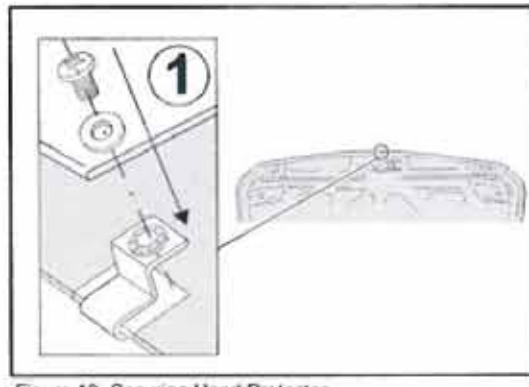

Figure 10. Securing Hood Protector
10. Secure the center of Hood Protector to metal clip with the screw and washer provided, as shown in figure 10.